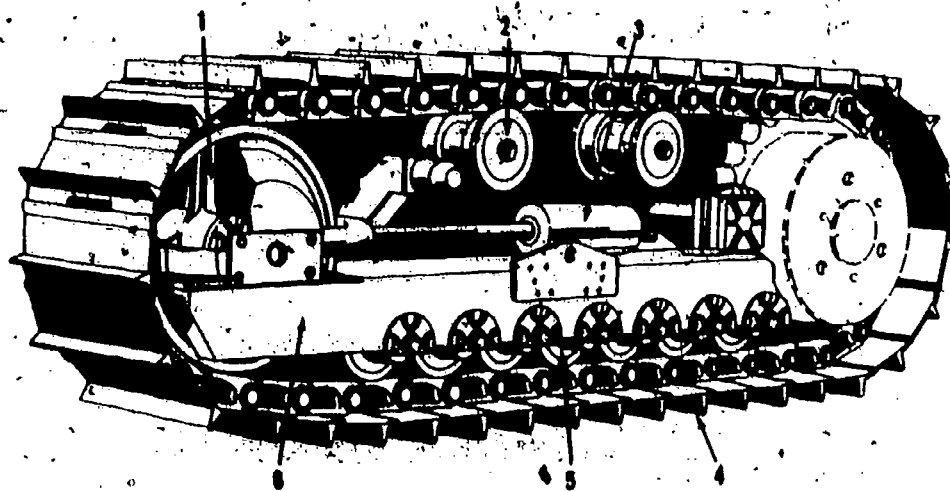

Fig 2-48. Steering brake adjustment.
- (2) Steering brake adjustment. The brake adjustments for the Case MC 1150 are located under the rear floor plate. First remove the rear floor plate, then adjust the pedal free travel as shown in figure 2-48. The free travel should be $1/16''$ measured at the floor plate. After adjusting the push rod, check the travel of the adjusting nuts on the brakes by placing a 24" rule on top of the adjusting nut and depressing the brake pedal. The travel should be measured at the seat frame. It should be $1/8''$ ($+1/16''$ or $-1/32''$).